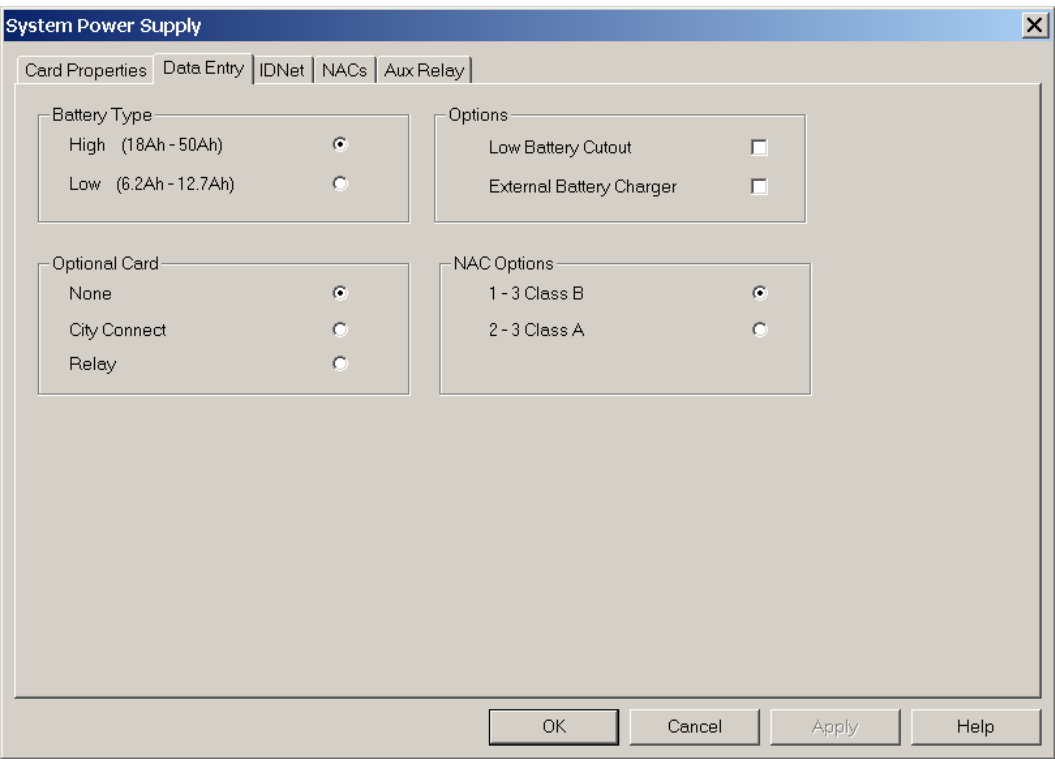

Figure 6-7. Power Supply Properties
- **Standard System Power Supply.** To access the System Power Supply located in the CPU bay, expand the Unit 0, Box 1, and Bay 1 icons, double click on the **PS QUAD (Slots 5-8) 4100-xxxx HW_SPS icon**, and select the **Data Entry tab**. A window similar to the one shown in Figure 6-7 appears.
- **Optional System Power Supply.** To access an optional System Power Supply, expand the Unit, Box, and Bay icon combination containing the power supply, double click on the power supply’s icon, and select the **Data Entry tab**. A window similar to the one shown in Figure 6-7 appears.